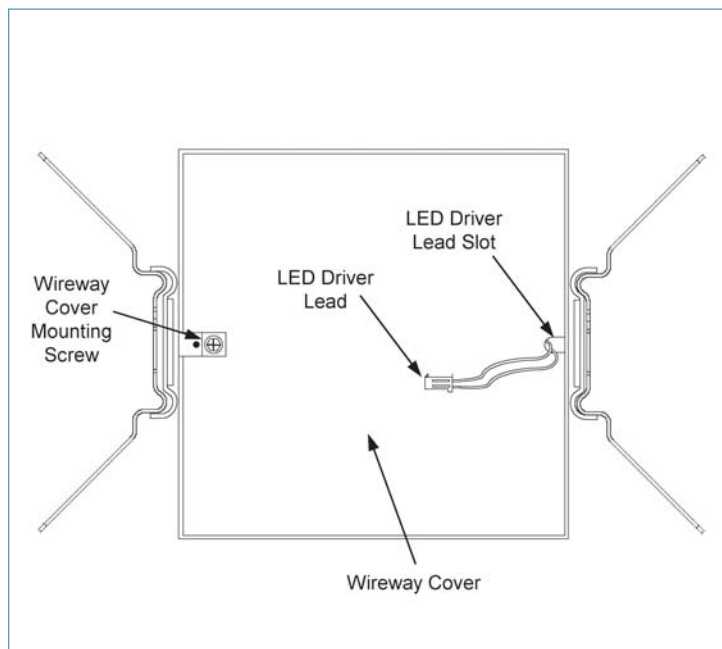

Figure 3: Gallium GS6 Series wireway cover.
- Remove printed circuit board and heat sink assembly by removing *circuit board mounting screw*. Disconnect the *LED driver lead(s)* (see *Figure 3*).
- Remove wireway cover by removing *wireway cover mounting screw* (see *Figure 3*).